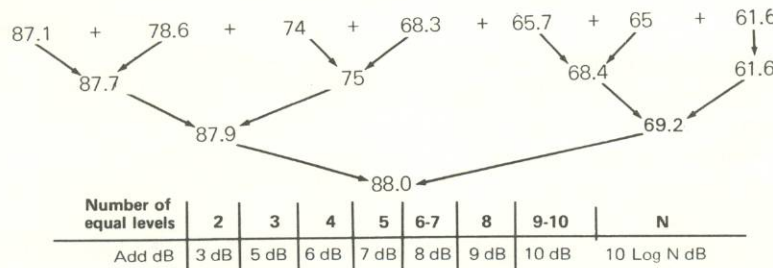

Figure 3-26. Mating configuration for connection of microphone, attenuator and preamplifier.
Thread the 1962-3210 attenuator to the preamplifier, and then thread the microphone to the attenuator. Figure 3-26 shows the microphone, attenuator, and preamplifier in their mating sequence before connection.
- c. Thread the 1933-3030 connector (see Figure 3-26) onto the 1988 preamplifier.